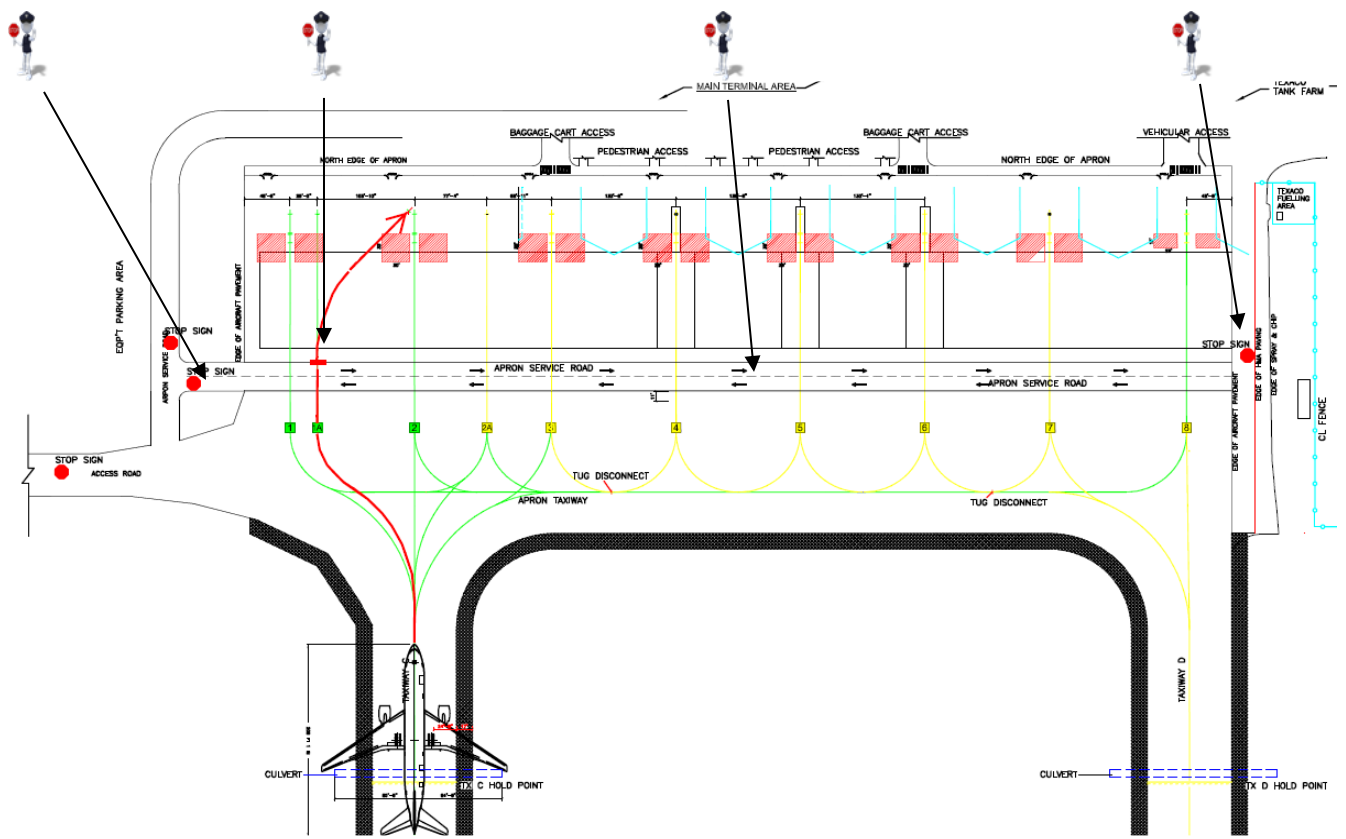

Figure. 1
- a) Stand 1A has been marked for use by the **Code “E”** wide-body aircraft **B777-200**. When the aircraft lands- **ATC** will have the aircraft exit the runway on **Taxiway “C”** and **follow the lead in line up to the beginning of aircraft stand 1A where he will be met by Marshal and wing walkers (See figure 1 next page)**.
Note- When approaching the painted “STOP” signs on the ground at the entryways to the Commercial Apron vehicular service lane (figure 1), or attempting to enter this lane from any other location on the Apron, all drivers will come to a full stop and look for signs of aircraft movement in any direction. In the event that an aircraft, wing walkers, or other personnel directing traffic are present in the apron driving lane, do not proceed into the lane but rather wait until the aircraft or personnel have exited the driving lane before continuing on your journey. If you are already in this driving lane please give way to aircraft and vacate lane as soon as possible to avoid incident or injury.